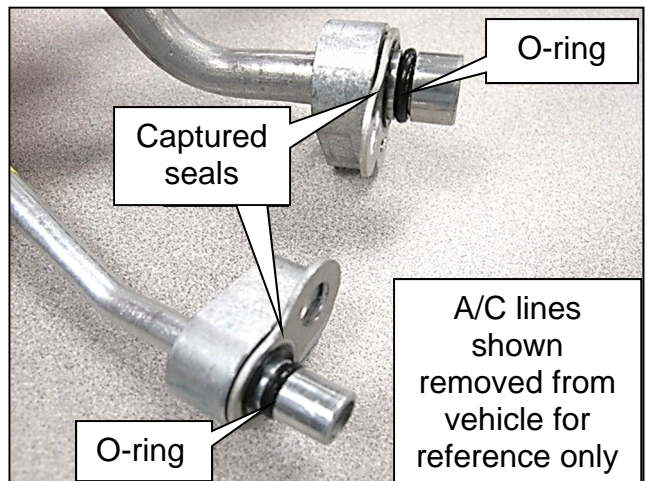

Figure 13
- b. Remove and discard the O-ring seal and the captured seal from each high pressure pipe, they will not be reused (Figure 13).